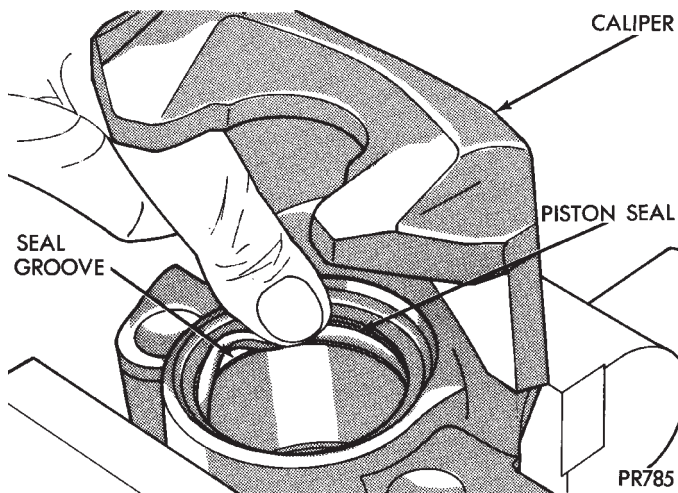

Fig. 6 Installing New Piston Seal
(2) Dip new piston seal in clean brake fluid and install in the groove of the caliper bore. Seal should be positioned at one area in groove and gently worked around the groove (Fig. 6), using only your fingers until properly seated.
NEVER USE AN OLD PISTON SEAL. (Be sure that fingers are clean and seal is not twisted or rolled) (Fig. 6).